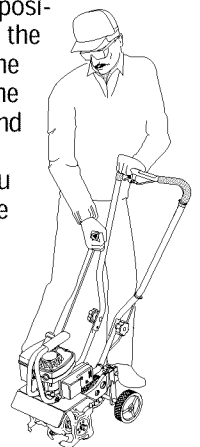

Figure 8
3. Stand with your feet positioned safely away from the tines (Figure 8). Hold the upper handlebar with one hand. Use the other hand to pull the recoil start rope out slowly until you feel resistance. Let rope rewind slowly. Then, quickly pull the rope all the way out. Do this up to ten (10) times. Let the start rope rewind slowly and completely each time.